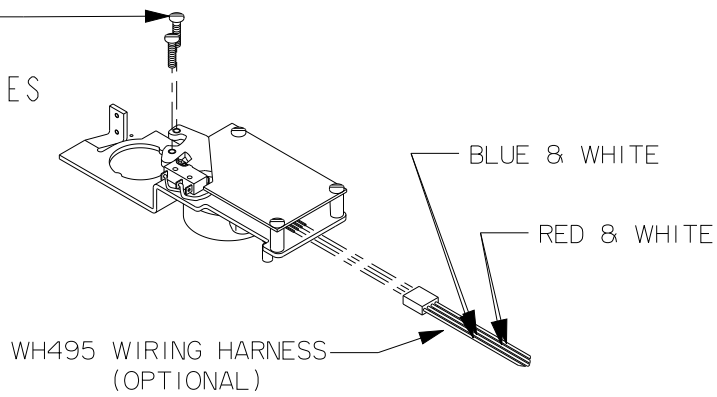

FIGURE 1
1. For Remote arm/disarm or Remote alarm connect: WH495 Wiring Harness as shown in FIGURE 1.
- Plug in the optional WH-495 wire harness, see figure 1, page 2